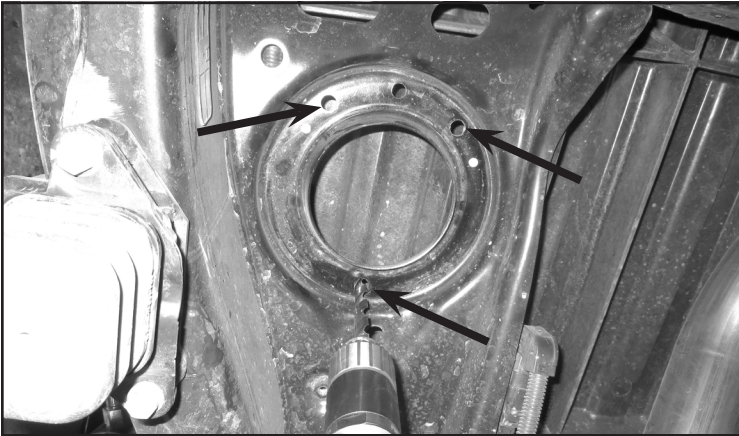

FIGURE 1 - STEP 3
3. Locate the factory 3 holes on the upper coil mount. Using a 7/16" drill bit. Drill out the original holes. **SEE FIGURE 1**